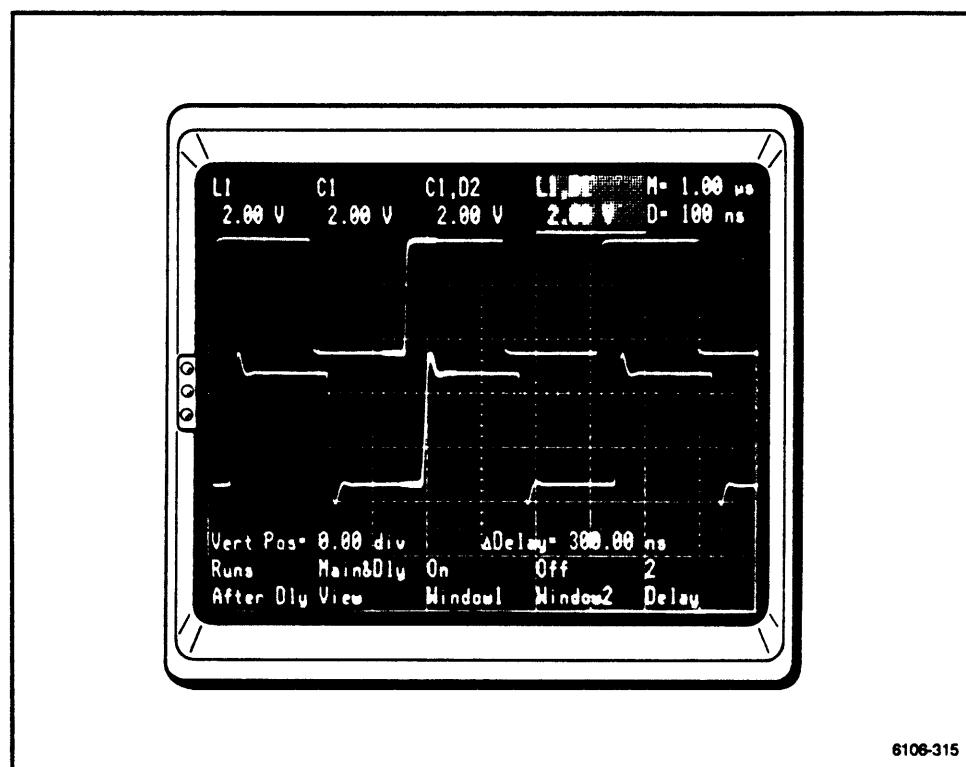

Figure 2-116. Setting delays for propagation delay measurement.
10. Use the **Delay** control to move the window zones to the desired event on each main trace. To do this, press the **DELAY** button, then turn the right knob. Touch **Delay** to alternate control from one zone to the other. (See Fig. 2-116.)